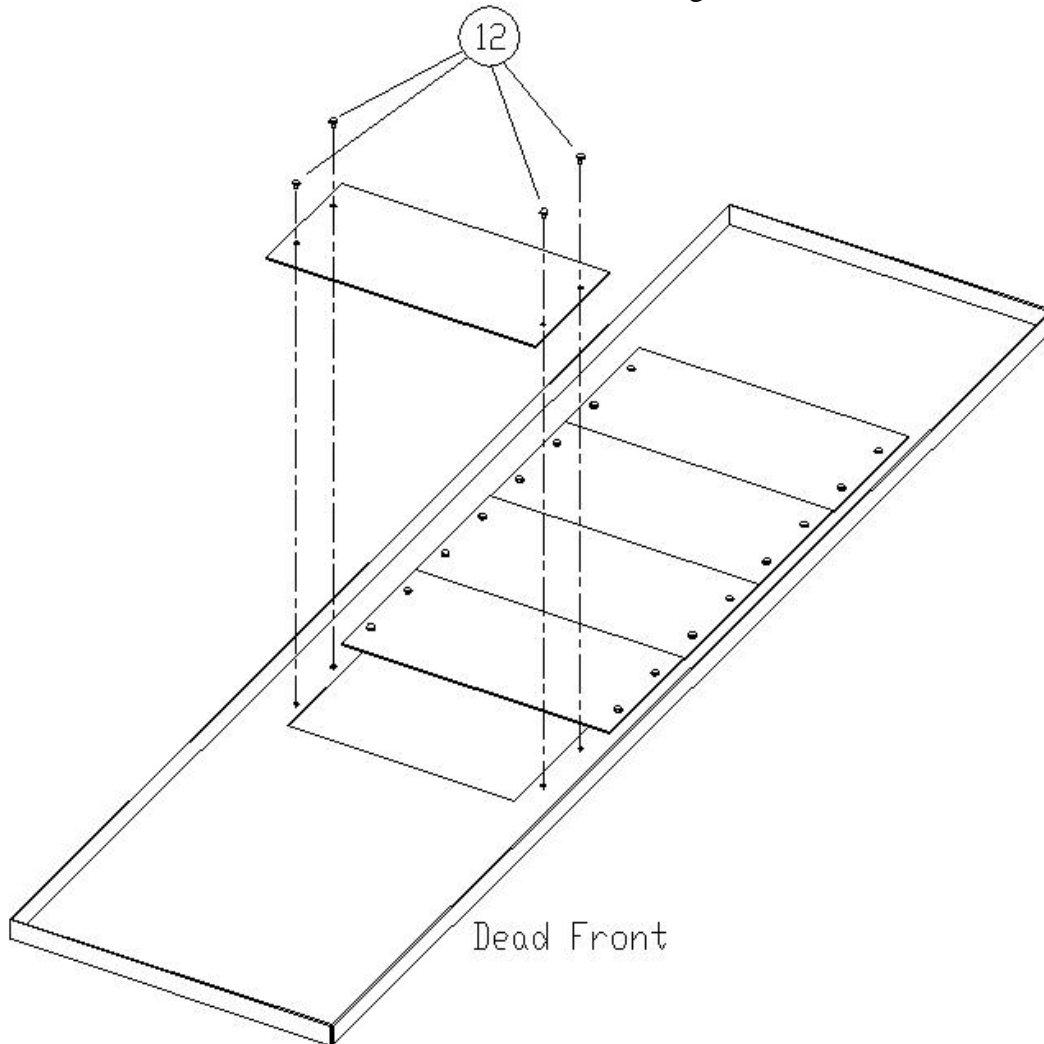

Figure 2. Removing the shield inserts from the shield for TQD breaker installation in A-Series® II Panelboards.
9. Remove the four screws [12] of existing filler plate from dead front where TQD breaker needs to be installed, as illustrated in Figure 2.